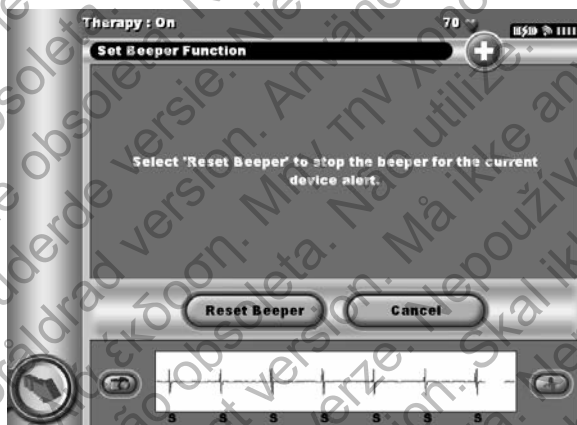

Figure 47: Resetting the Beeper
4. Select the Reset Beeper button to suspend audible beeping tones triggered by an alert condition (Figure 47). If the alert condition is not corrected, the audible beeping tones will be reactivated during the next automatic S-ICD System self-check.